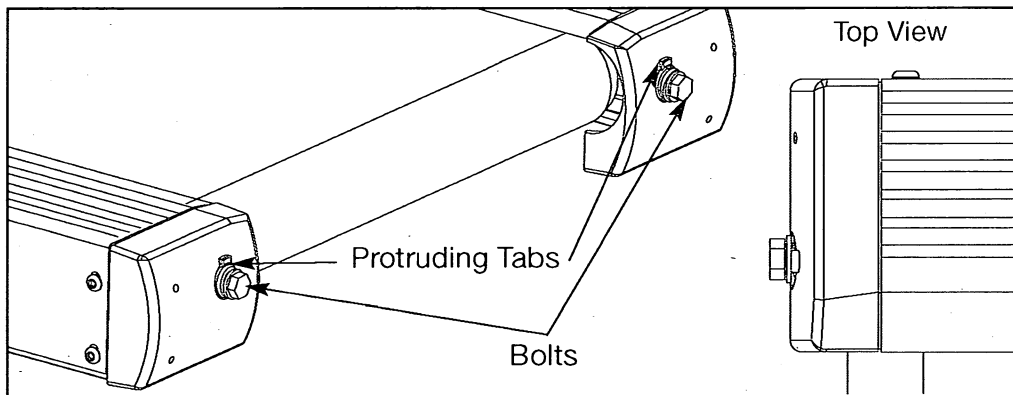

Figure 1
The running belt may become loose and slip on the drive roller with each foot plant. The 700T is equipped with visual indicators of belt tension. These are located at the rear of the treadmill where the two 3/4" bolts protrude from the plastic end caps. See Figure 1. These are designed to indicate if the running belt is at the proper tension to insure safe operation of the unit. If the belt has become loose, the silver colored washer located under the bolt will move out slightly from the protruding tab molded in the end cap. See the *Service Schedule* in this chapter to determine the minimum recommended checking of the belt tension.
- A. Use a 3/4" wrench to turn each bolt clockwise until the silver washers are flush with the protruding the tab on the end caps. See Figure 1.